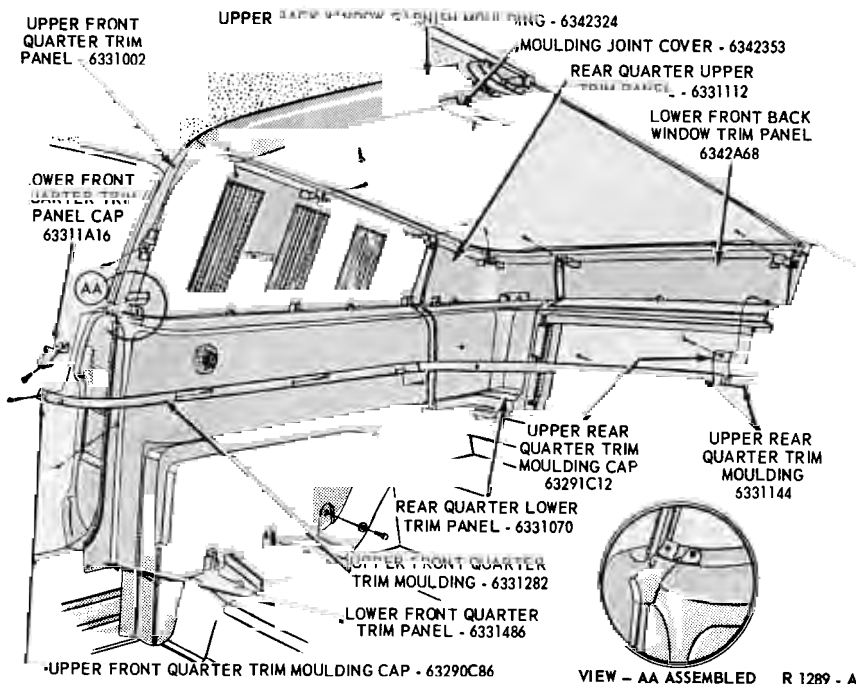

FIG. 7—Interior Mouldings and Quarter Trim Panel Installation
4. Remove 4 screws and remove the quarter trim upper front mouldings and caps (Fig. 7).
20. Install the right and left quarter trim upper front panels (Fig. 7).